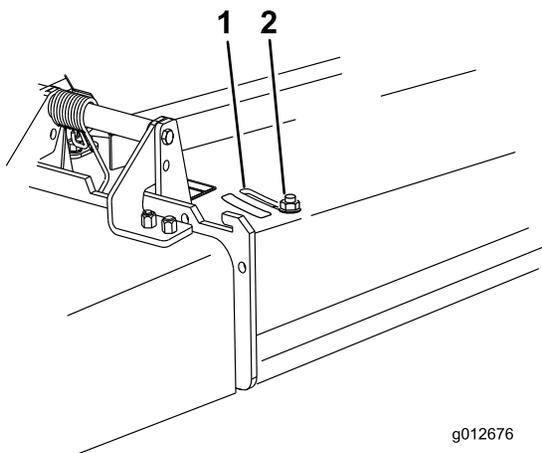

Figure 14
- To adjust the baffle, loosen the nut (Figure 14).